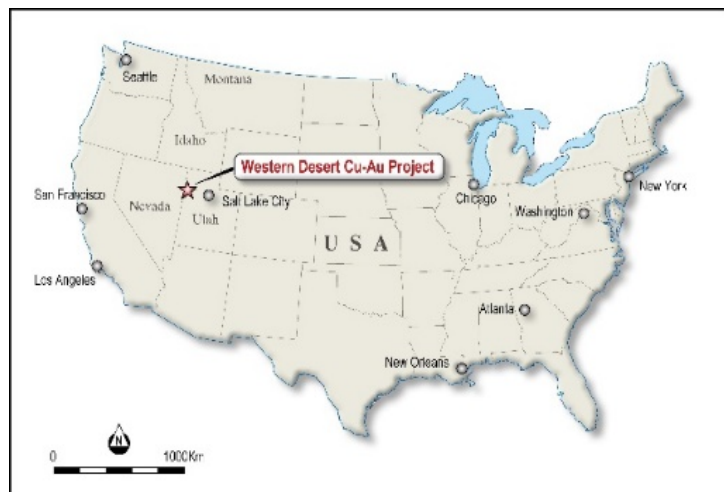

Figure 1 – Western Desert Gold-Copper Project, USA
The Western Desert Gold-Copper Project (WD) consists of 30 BLM lode mining claims, located in western Utah near to the Nevada Border. The closest town is Wendover, 42km South West of the project, which straddles the Utah-Nevada Border, with good access to all services and amenities (Figures 1 & 2). The Project is readily accessible via maintained gravel roads from Wendover.